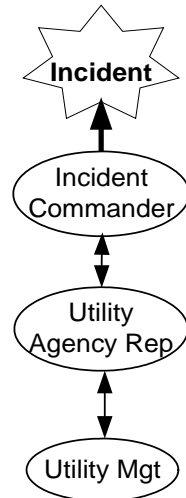

Figure 5: Utility Agency Representative Reporting to IC and Independent Utility Management
While working with the Incident Commander (IC), the utility Agency Representative establishes contact with utility management to report conditions and progress. **Figure 5** demonstrates how a utility Agency Representative from an independent utility reports to a law enforcement, fire, or public works IC while communicating with his or her utility management about the incident and resource needs. Utility management policies and response plans determine the exact reporting relationship and responsibilities. As a result, reporting relationships and responsibilities may vary by utility.